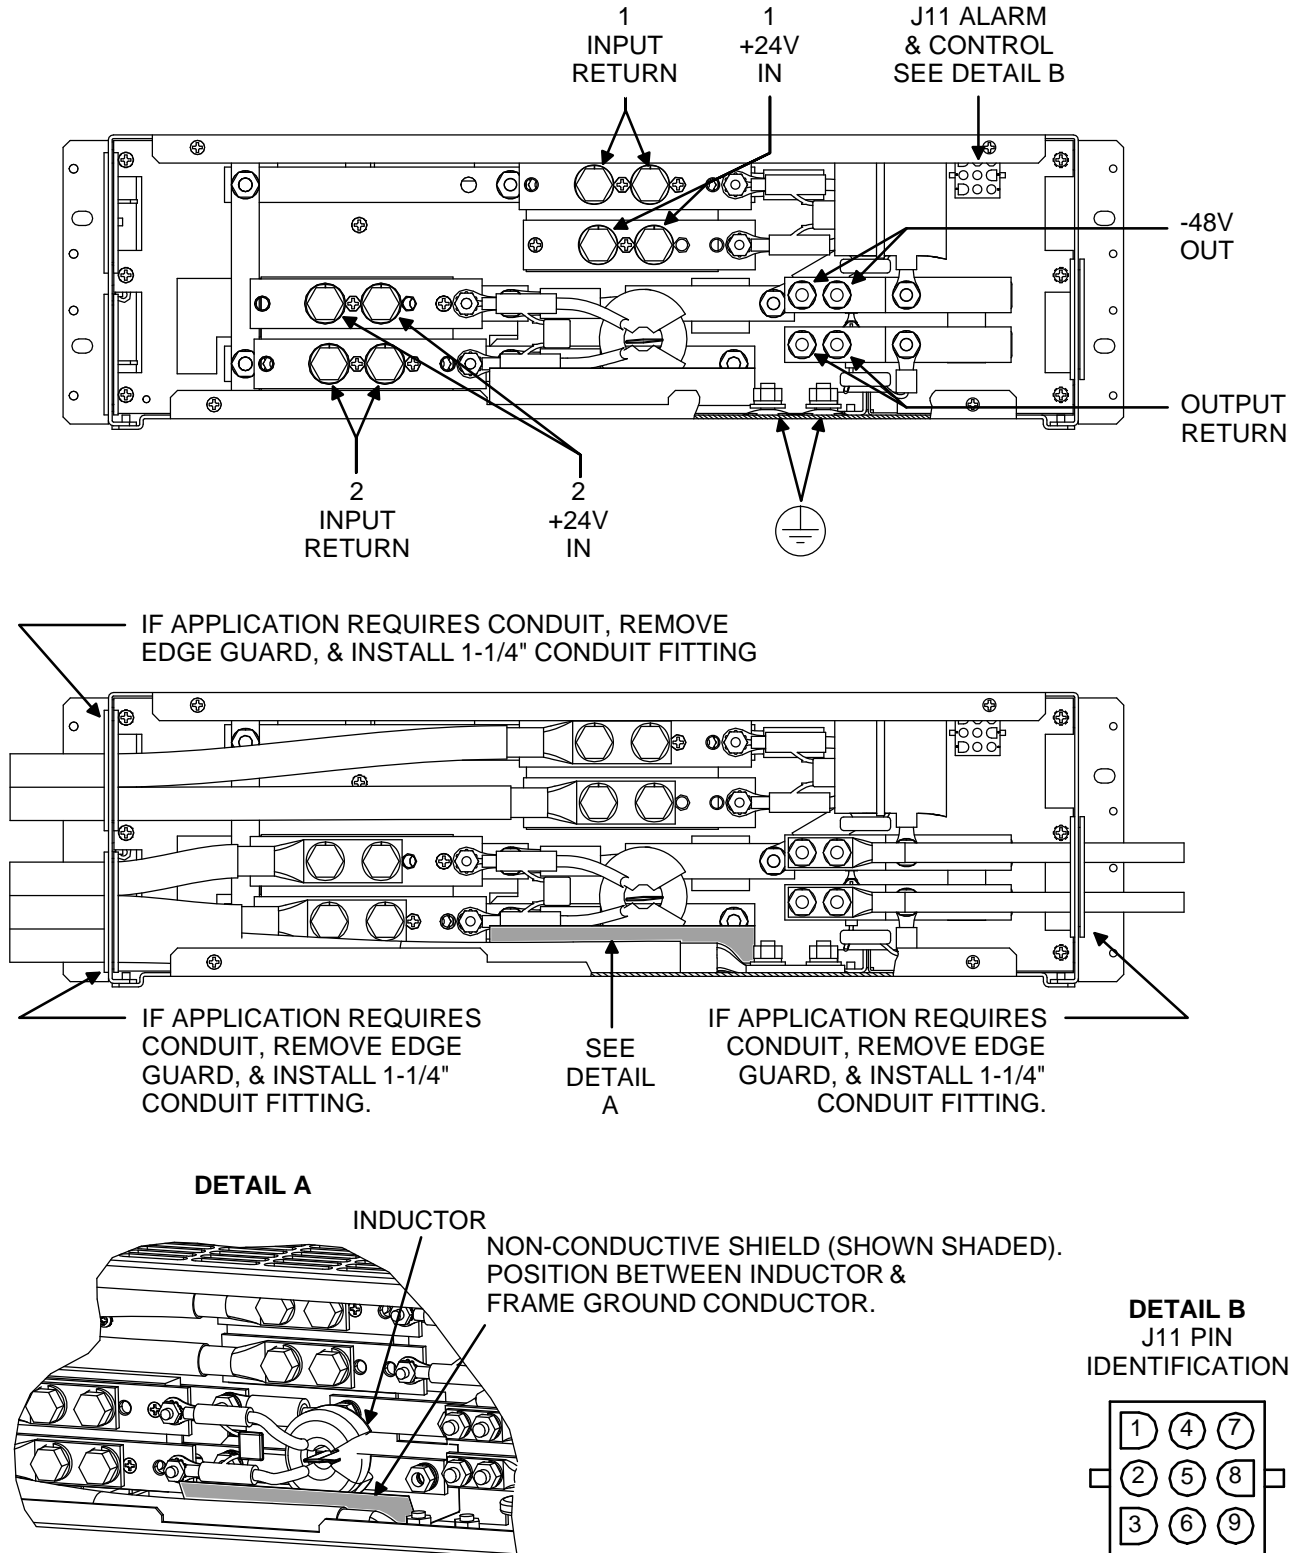

Figure 2
Wiring must be routed into the Converter Shelf through specific openings as shown in Figure 2. For factory wiring, edge guards are provided on the circular openings. If your application requires conduit, remove the edge guards, and install 1-1/4" conduit fittings.
When connecting lugs, correct assembly order is: lug, flat washer, lock washer, bolt. Recommended torque is 300 in. lbs. Refer to Figure 2 for terminal identification as the following input connections are made.
Two 1/4-20 threaded studs are provided to attach the grounding conductor to the Converter Shelf. Refer to Figure 2 for location. The installer must provide lugs. Refer to System Application Guide SAG588249301 for recommended wire size and lug. Refer to Table 1 for lug crimping information. The following hardware is factory-furnished for connecting the lug:
Wiring must be routed into the Converter Shelf through a specific opening as shown in Figure 2. For factory wiring, an edge guard is provided on the circular opening. If your application requires conduit, if not already done, remove the edge guards, and install a 1-1/4" conduit fitting.
**Note:** *Ensure the furnished non-conductive shield is positioned between an inductor and the equipment grounding conductor as shown in Figure 2.*
Make External Alarm connections to the 9-pin connector (J11) located on the rear of the Converter Shelf. Refer to Figure 2 for connector location and terminal identification.
Wiring must be routed into the Converter Shelf through a specific opening as shown in Figure 2. For factory wiring, an edge guard is provided on the circular opening. If your application requires conduit, if not already done, remove the edge guard from the circular opening, and install a 1-1/4" conduit fitting.
When connecting lugs, correct assembly order is: lug, flat washer, lock washer, bolt. Recommended torque is 84 in. lbs. Refer to Figure 2 for terminal location as the following input connections are made.